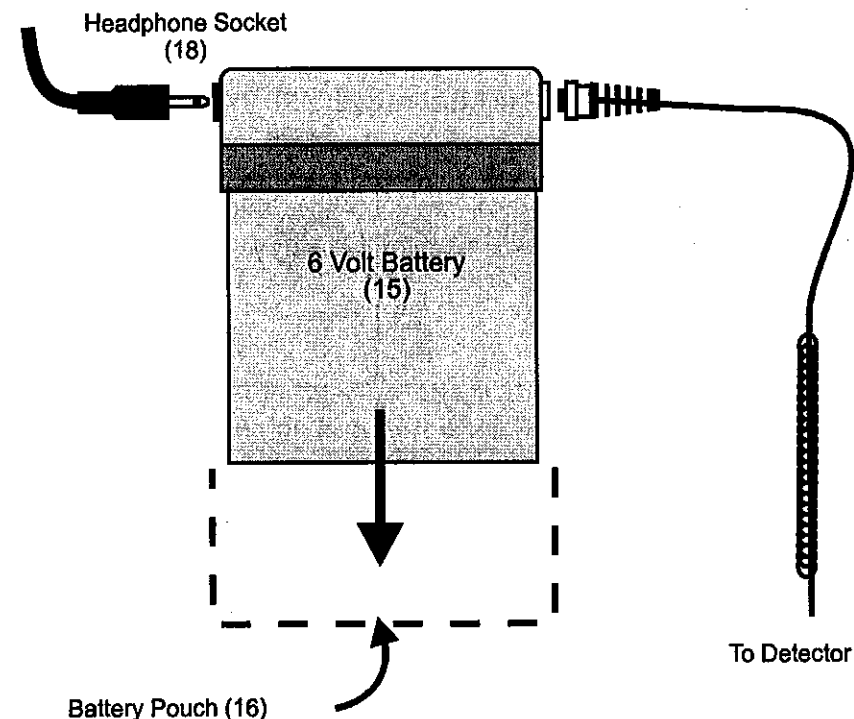

Figure 3 – SD 2100e battery assembly
- l) Fit the *Battery* (15) into the battery pouch (16). (See Figure 3.)
- m) Plug the *Headphones* (17) into the socket (18) in the cap of the battery pack.
- n) Put on the battery pack. Ensure that the *On/Off* switch on the *Control box* is set to *Off*. Plug the connector (19) on the battery pack cable into the power connector on the *Control box*. This cable connects the *Battery* to the detector.